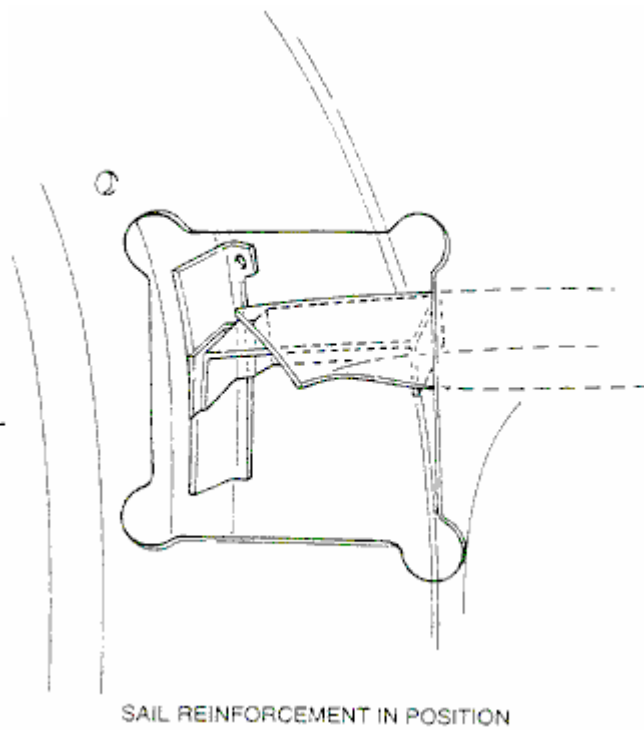

FIGURE 10B
25. To prevent loss of reinforcement down the B-pillar, stuff it with cloth towels or block by other means. Practice inserting and removing the reinforcements to get used to handling the parts in the confined space. Determine if the reinforcement for the sail panel fits snug; if not, bend the reinforcement so that it does (refer to Figure 10B).